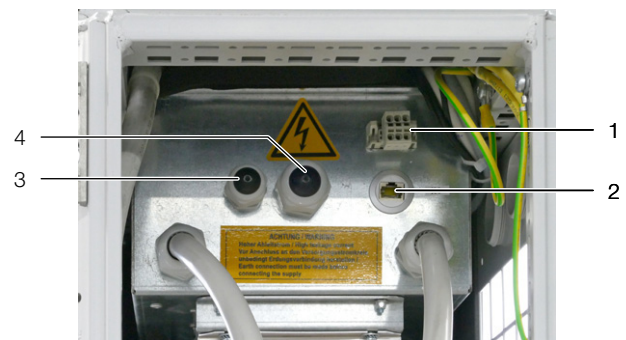

Fig. 22: Electronics box – rear
Inside the device, the cable is routed into the electronics box via the large cable gland in the centre (fig. 22, item 4). It is connected to the appropriately labelled terminals (PE, L1, L2, L3, N) in the electronics box.